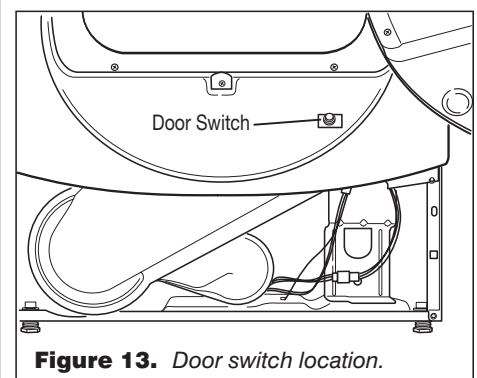

Figure 13. Door switch location.
- Check that the wires between the door switch and machine control electronics are connected. See figure 13 for switch location, and see Accessing and Removing the Electronic Assemblies, page 10.